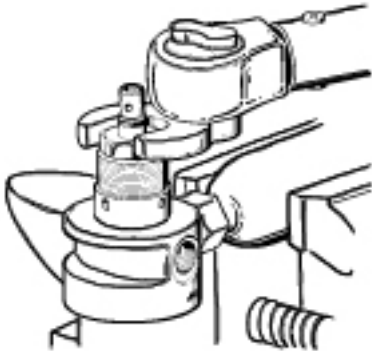

Figure 29 - Torque measurement of valve body
8. While holding the first stage with the low pressure side facing up, carefully insert the small end of the pin (9) into the center hole of the body until only the larger end is protruding.
9. Install the pin support (8) over the large end of the pin.
10. Lay the diaphragm (7) inside the body, and gently tap it down until it is evenly seated at the base of the female threads.
11. Lay the thrust washer (6) inside the body, and press it firmly down until it is seated evenly over the diaphragm.
12. Lay the spring pad (5) in the center of the diaphragm with the mating tab facing up, lubricate the threads of the spring retainer (2), and thread the spring retainer (2) clockwise into the body by hand until snug.
14. Secure the vise mounting tool in a vise, with the inlet boss of the first stage body facing straight up. Apply a torque wrench with 3/4" crow-foot or deep socket to tighten the valve body to a torque measurement of **60 ± 5 inch-lbs.** (See Figure 29).